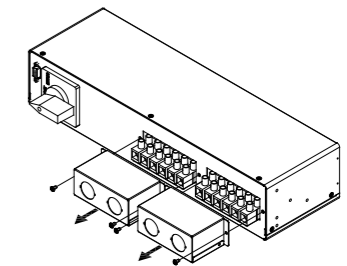

Fig. 3
- Unscrew and remove the cable entry boxes on the MBB-S. See Fig. 3.